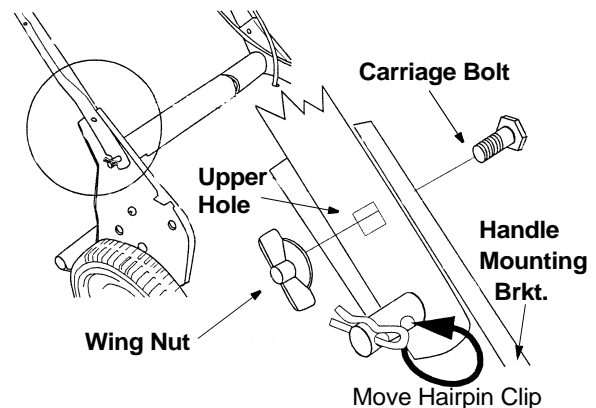

Figure 3
- Remove the hairpin clips from the outer hole in the weld pins on the handle bracket assemblies. Using a pair of pliers, squeeze one leg of the lower handle against the handle bracket assemblies. Insert the hairpin clip into the inner hole on the weld pin. Repeat on other side. See Figure 3.
- After you have moved the hairpin clip, install the carriage bolt, (carriage bolt must go to the inside of handle) included in the hardware pack, in the upper hole on the handle mounting bracket. Secure with one plastic wing nut, also included in the hardware pack. See Figure 3. Repeat process on other side.
- Remove the hairpin clips from the weld pins on the handle brackets. Refer to Figure 3.